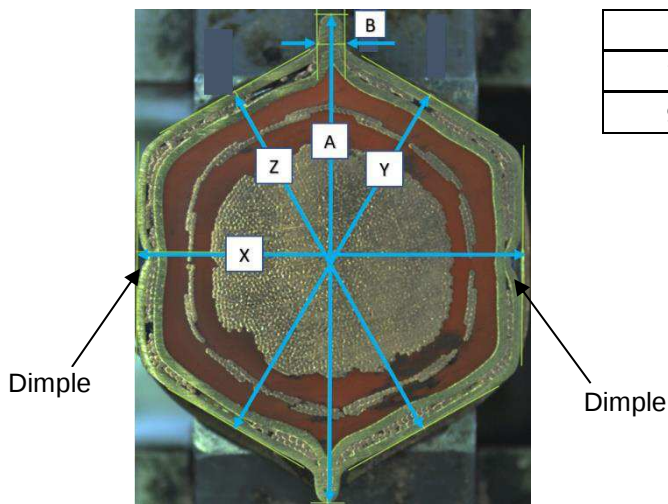

Figure 9b: Hex Crimp
- Revision A - Table 1,3 & Figure 9b updated.